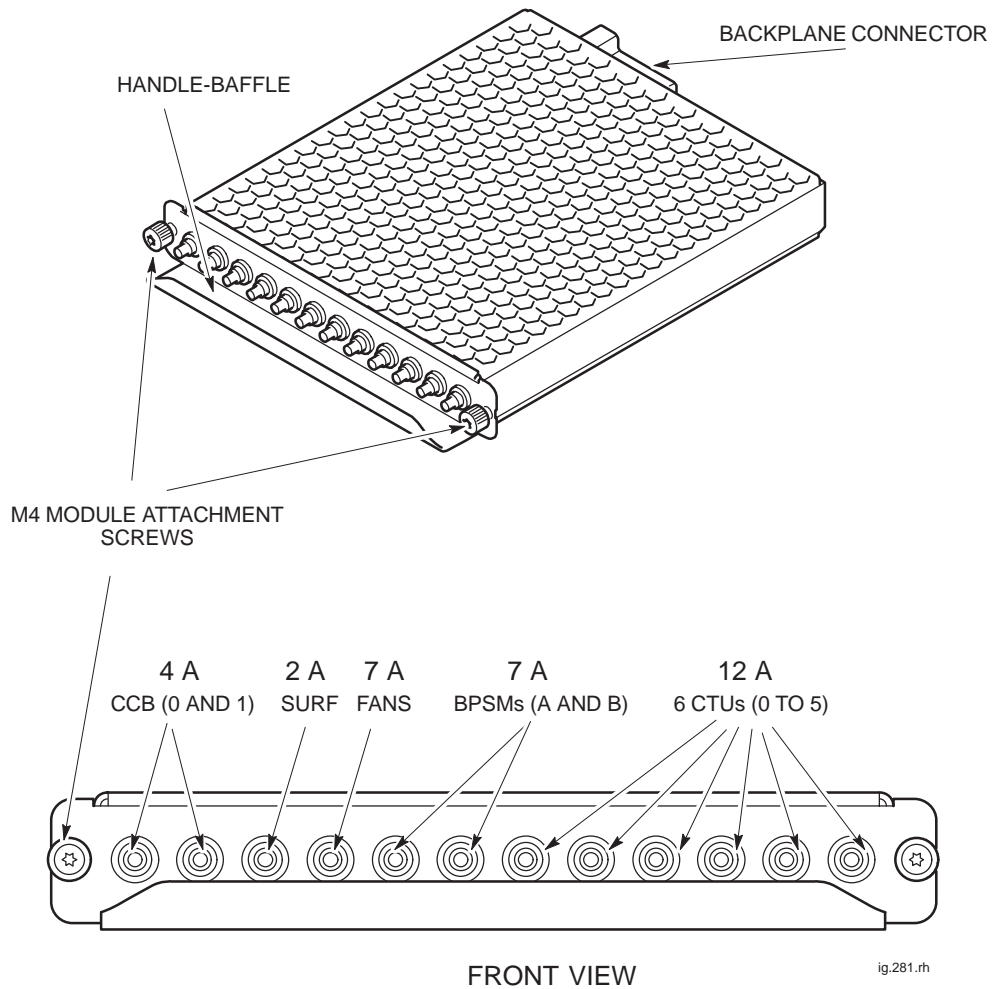

Figure 2-6 Views of CBM with circuit breaker buttons identified
Figure 2-6 shows views of the CBM with circuit breaker buttons identified.
3. Unscrew both CBM module attachment screws (shown in Figure 2-6), using a torxdriver.